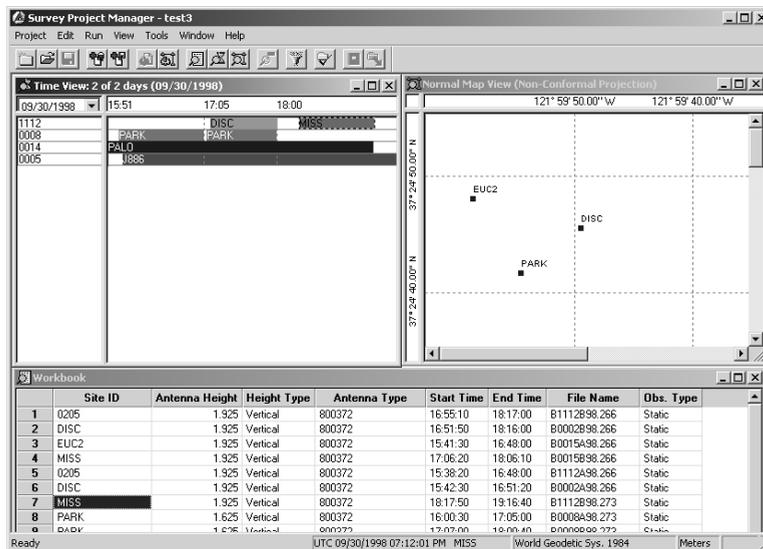

Figure 5.1. Project Manager Main Window
2. Verify that the **Time View** window and the **Workbook** window with the **Observations** tab are open (Figure 5.1).